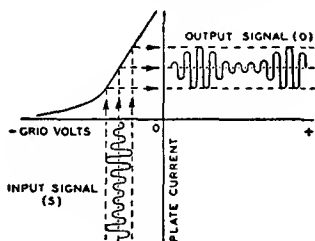

Fig. 12
As a class A voltage amplifier, an electron tube is used to reproduce grid voltage variations across an impedance or a resistance in the plate circuit. These variations are essentially of the same form as the input signal voltage impressed on the grid, but of increased amplitude. This is accomplished by operating the tube at a suitable grid bias so that the applied grid-input voltage produces plate-current variations proportional to the signal swings. Since the voltage variation obtained in the plate circuit is much larger than that required to swing the grid, amplification of the signal is obtained. Fig. 12 gives a graphical illustration of this method of amplification and shows, by means of the grid-voltage vs. plate-current characteristics curve, the effect of an input signal (S) applied to the grid of a tube. O is the resulting amplified plate-current variation.